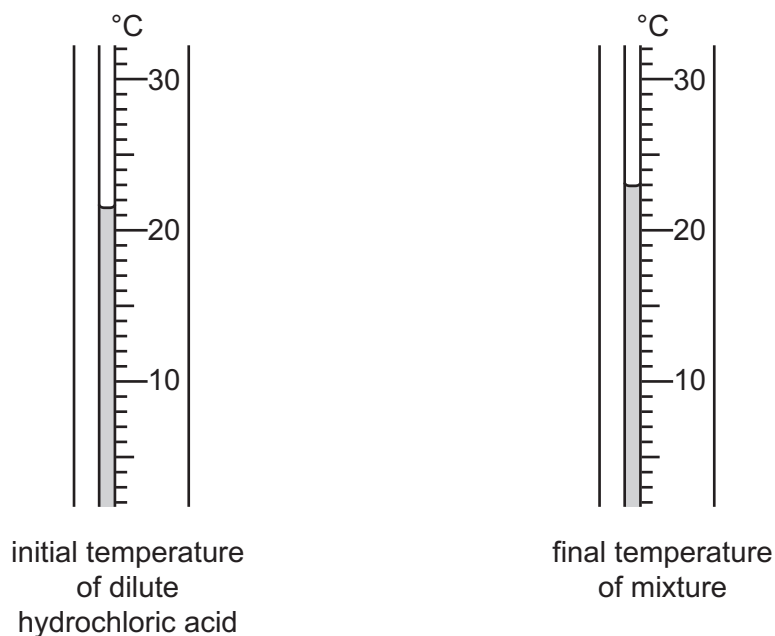

Fig. 1.1
- (i) The temperature readings for lead powder are shown in Fig. 1.1.